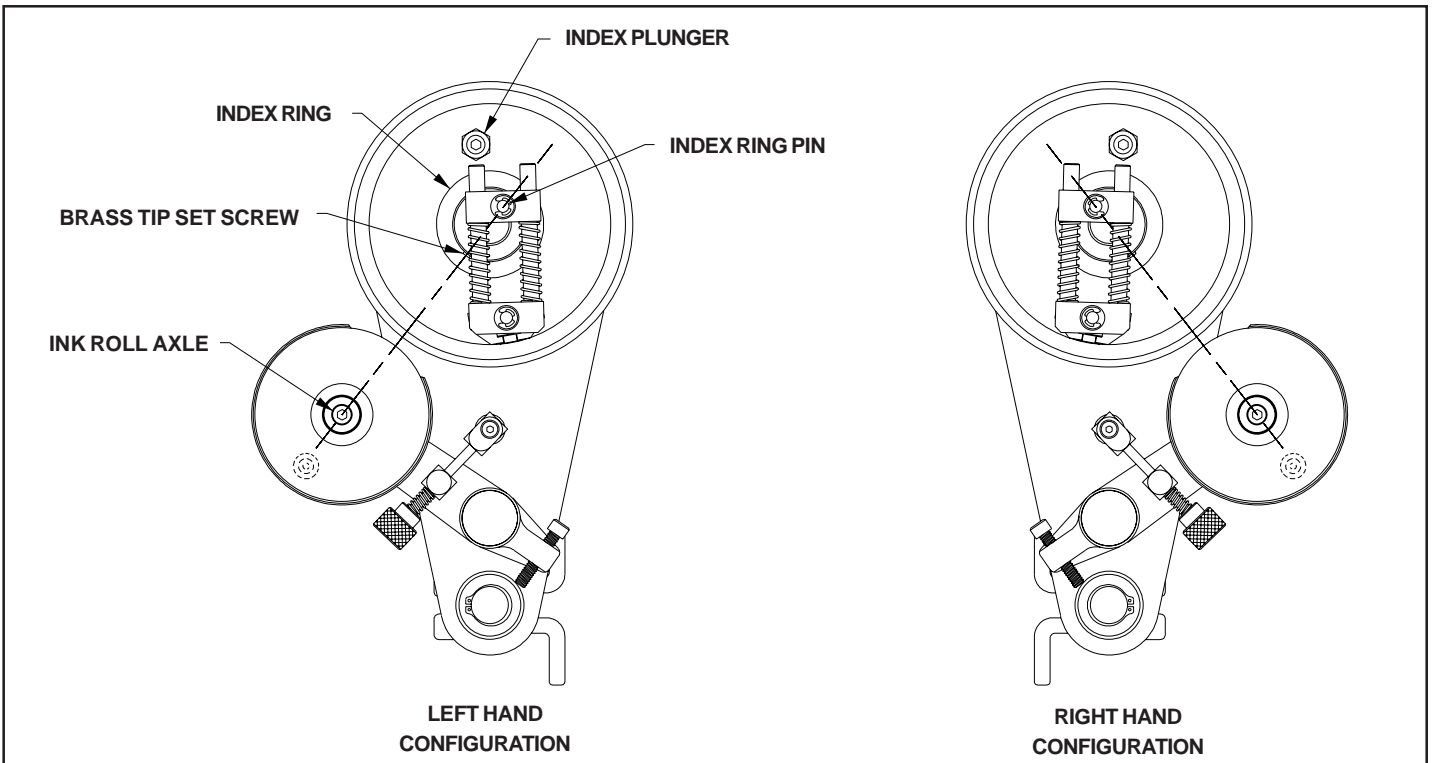

FIGURE 45
- 6- Rotate the Index Ring in a clockwise direction until it stops turning. Next, turn the Index Ring in the counter-clockwise direction as necessary until the Brass Tip Set Screw is pointing directly at the Ink Roller Axle as shown in Figure 45.